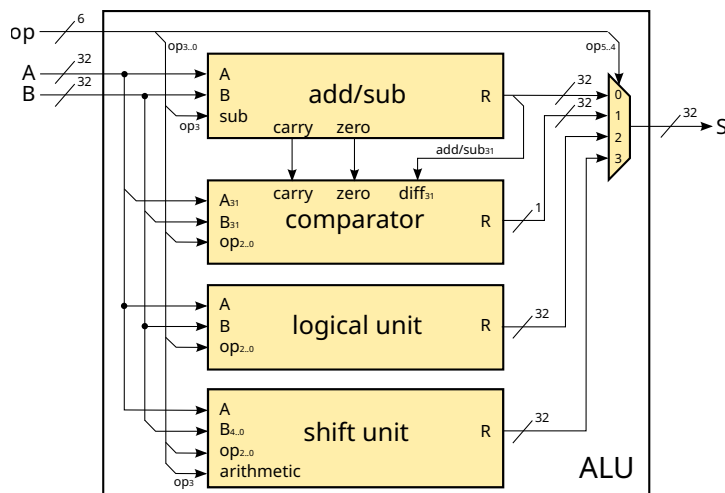

Figure 2: The internal architecture of the ALU.
For this lab, you will implement a 32-bit ALU with 4 internal units. The available operations and their corresponding encoding are listed in Table 1. The 6-bit **op** control signal selects which operation to execute. Figure 2 shows the internal architecture of the ALU.
- `mux4x32.v`: Implement the 4-to-1 multiplexer as shown in Figure 2.